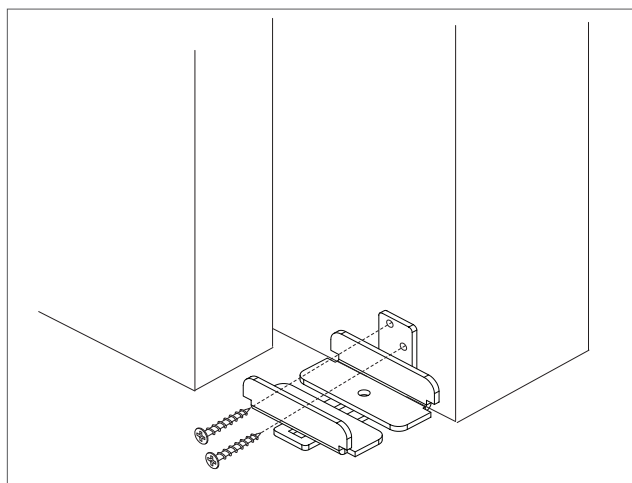

Figure 1
4. Slide the door to the open position (Figure 1).